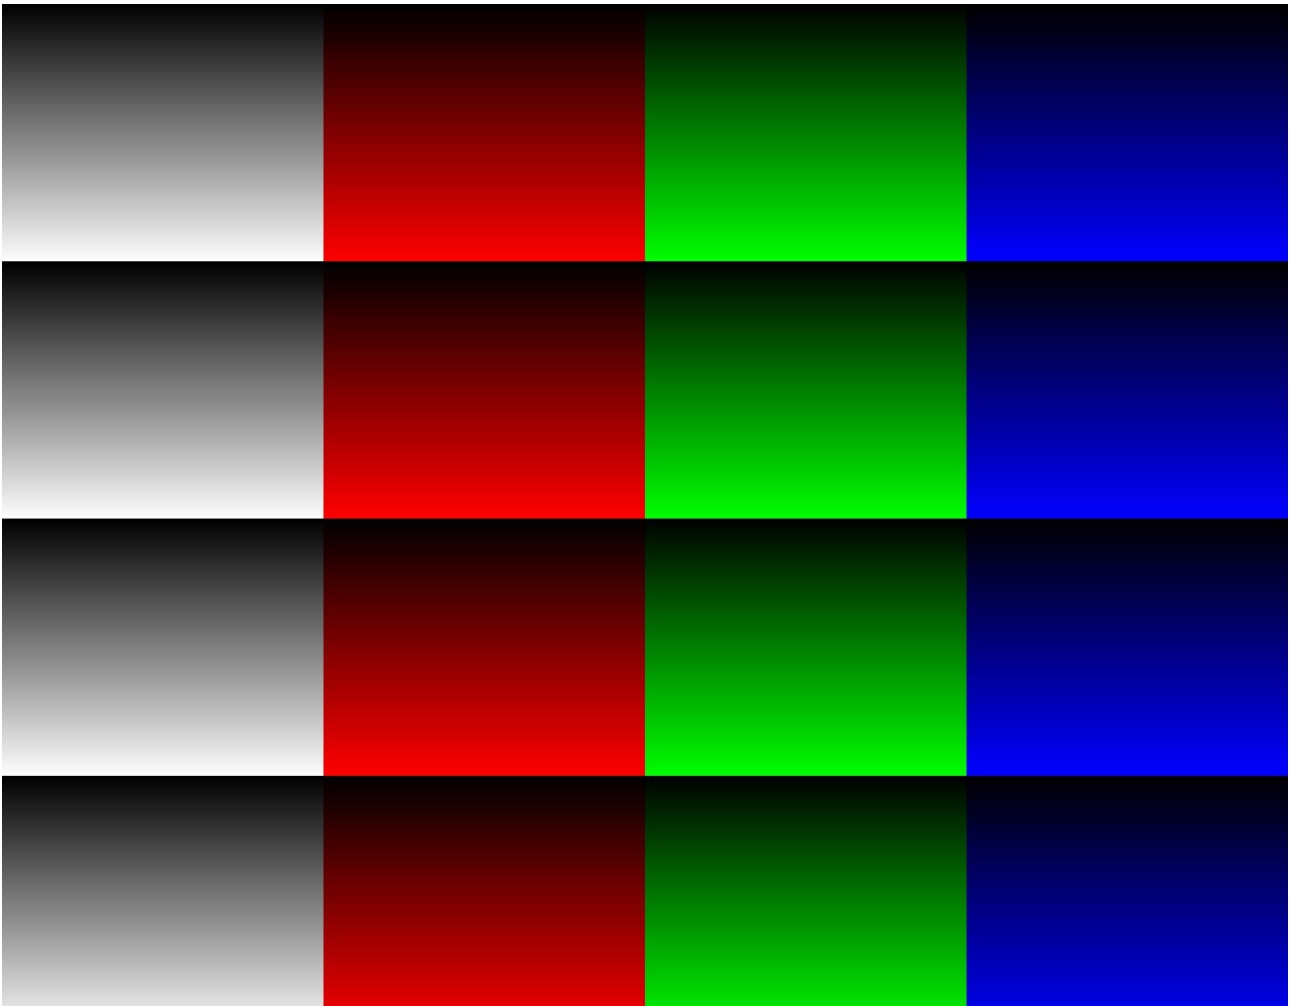

Figure 18 : Vertical color pattern
4. Vertical color ramp – vertical gradient of several color stripes as shown in Figure 18.